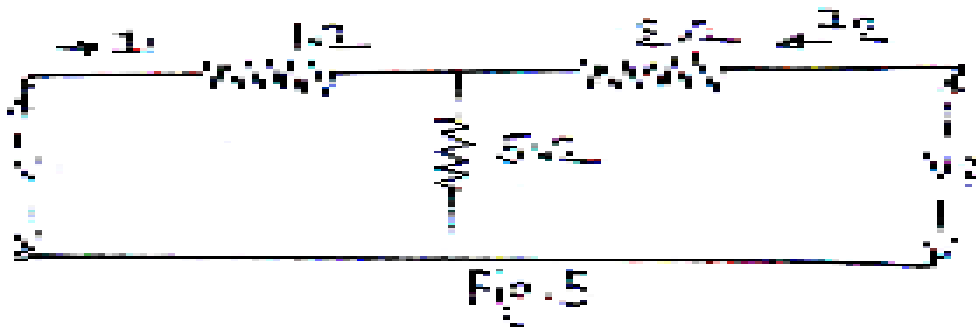

Fig. 5
- b) Find the transmission parameters for the ckt shown in Fig. 5. 8